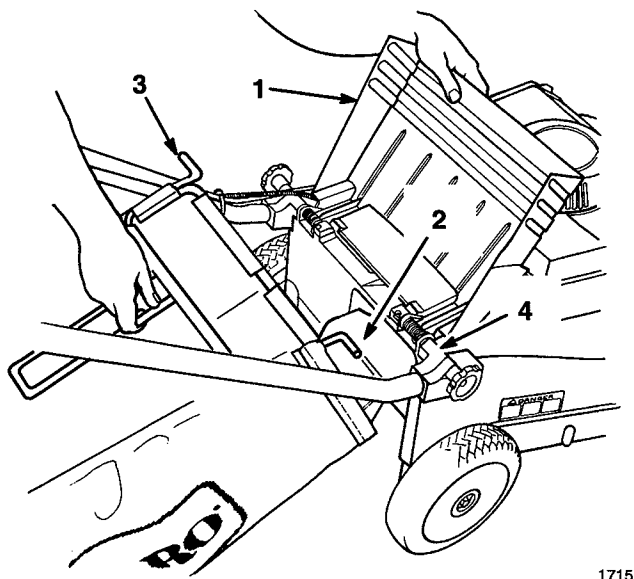
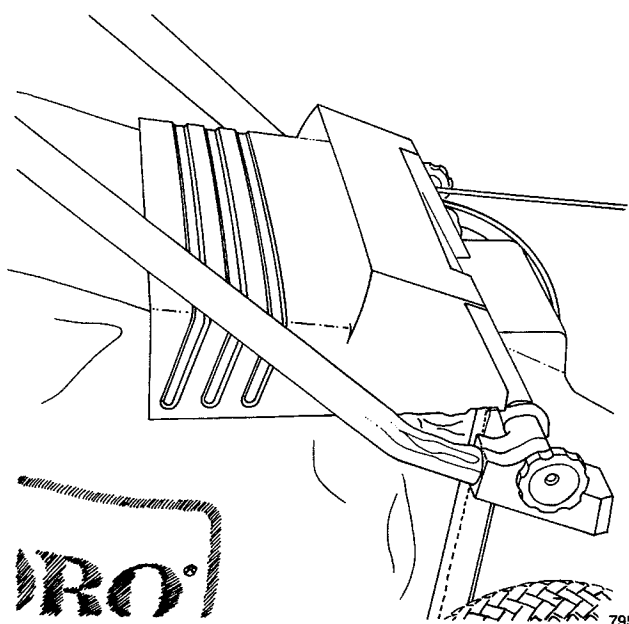

Figure 9
Figure 10
2. Raise discharge door, slide bag ramp attached to bag into discharge opening, and hook bag frame onto mounting bracket (Fig. 9). Allow discharge door to rest on top of bag (Fig. 10).